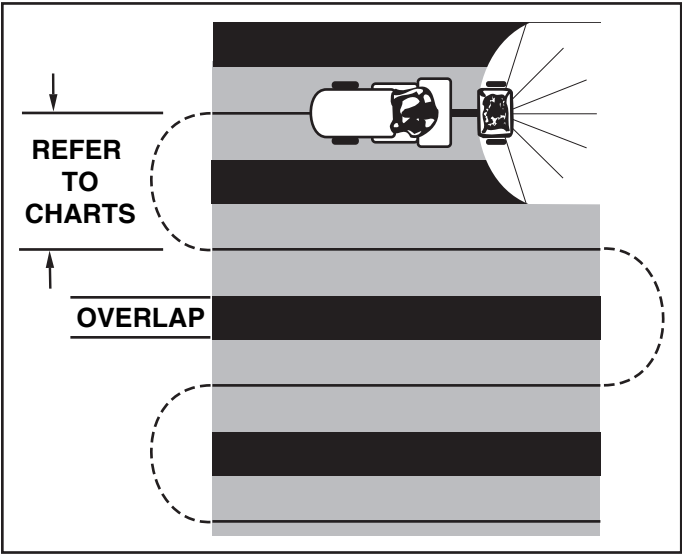

FIGURE 13
- To insure uniform coverage, make each pass so that the broadcast pattern slightly overlaps the pattern from the previous pass as shown in figure 13. The approximate broadcast widths for different materials are shown in the application chart on this page.